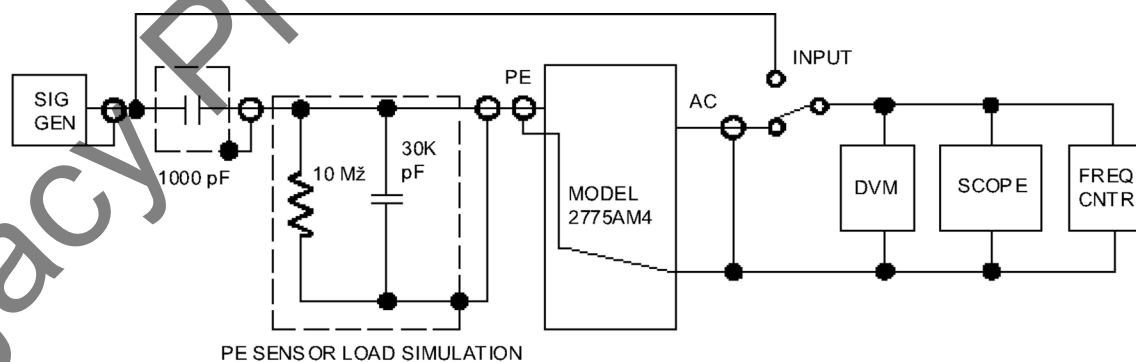

FIGURE 5-10: FREQUENCY RESPONSE
- A. The low frequency response must be measured using an oscilloscope or a special low frequency measurement device (such as a Solartron 1250 Frequency Response Analyzer). Set the SENSITIVITY switch to 1.00 and the FUNCTION switch to OUT CAL and adjust the AC OUTPUT for 1.000 Vrms. Set the FUNCTION switch to OP and adjust the signal input level to the 1000  $\pm$ 1 pF shielded capacitor to read 1.00 Vrms at the AC OUTPUT (see Figure 5-10). Adjust the frequency and make the following readings: